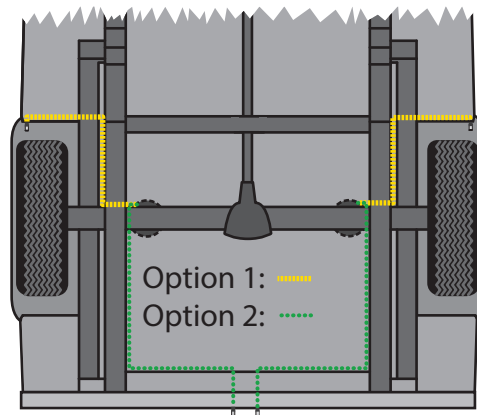

fig. 12
6. Route the air line along the frame to the fitting on the air spring (Fig. 12). Keep AT LEAST 6" of clearance between the air line and the exhaust system. Avoid sharp bends and edges. Use plastic tie straps to secure the air line to fixed points along the chassis. Be sure that the tie straps are tight, but do not pinch the air line. Leave at least 2" of slack to allow for any movement that might pull on the air line.